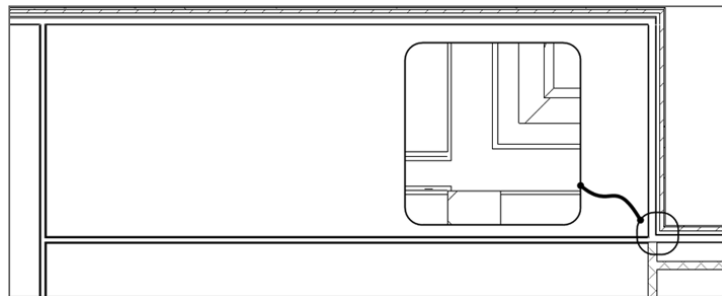
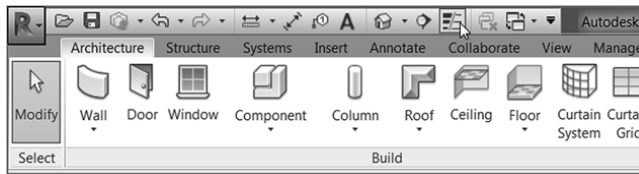

FIGURE 2.50: The wall and the resulting intersection
FIGURE 2.51: Click the Thin Lines icon to see how the walls are joining together.
4. The wall may be flipped in the opposite direction from Figure 2.50. If it is, remember to press the spacebar; doing so flips it up to the proper orientation.
5. Pick the second point of the wall at the corridor in the middle of the building. Press Esc twice. The intersection should look like Figure 2.50.
6. Zoom back in on the intersection. If the view doesn't resemble Figure 2.50 in terms of line weight, click the Thin Lines icon, as shown in Figure 2.51.